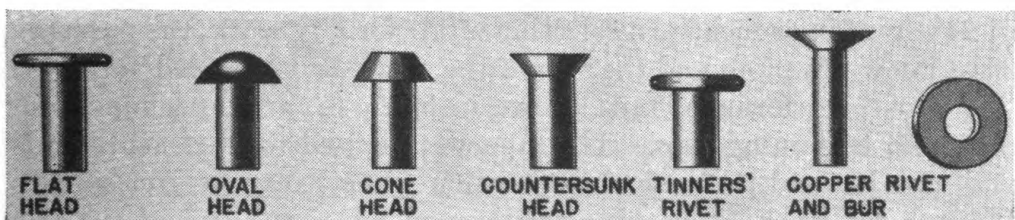

FIGURE 55.—Types of rivets.
(4) Rivets (fig. 55) although not threaded are classified as metal fasteners; the pressure of their heads, instead of threads, exerts holding force. They are very commonly used for permanent fastening but are not practical for any assembly that has to be taken apart.
21. Driving rivets.—Figure 55 shows the types of rivets usually found in automotive work. When the holes for the rivets have been properly located and drilled in the work, the following procedure for driving them will give good results: